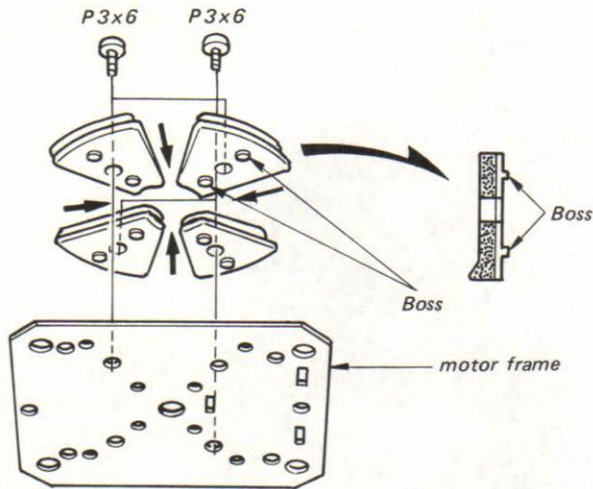

Fig. 5-3
- a. Mount the coils on the motor frame so that the boss of the coil is placed in the hole of the frame as illustrated in Fig. 5-3.